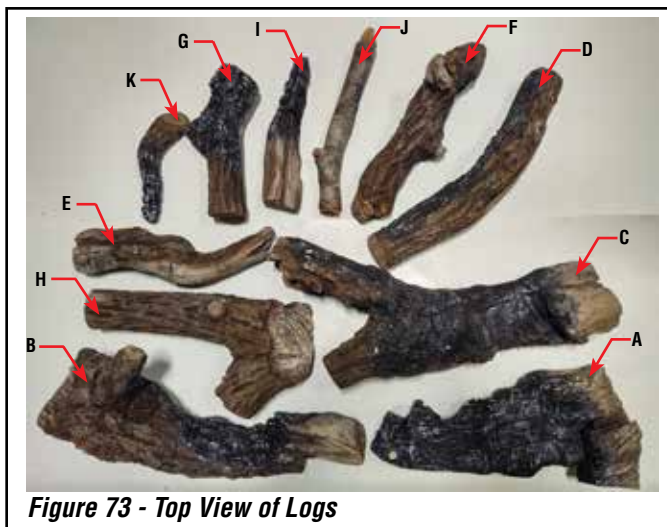

Figure 73 - Top View of Logs
1. Install logs (reference **Figure 73**).